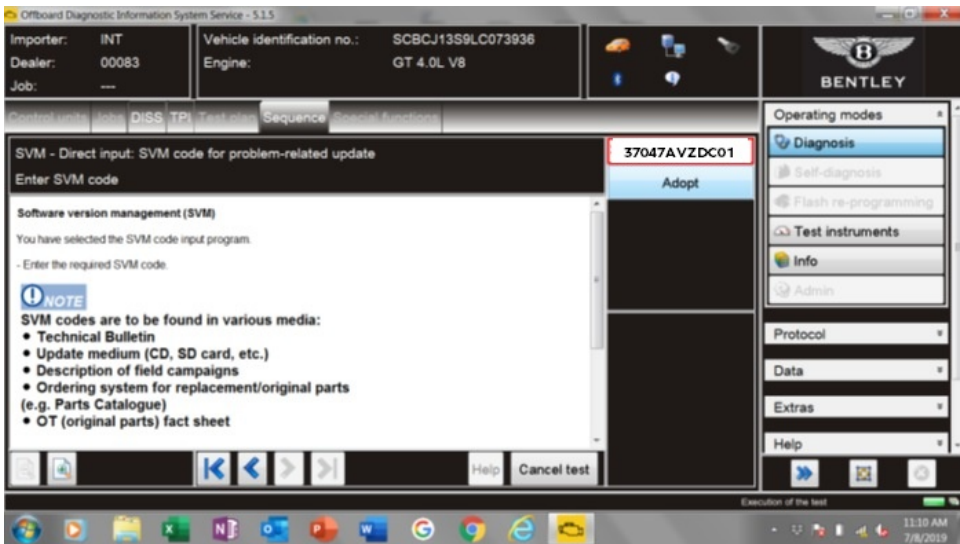

Figure 2
2. Enter SVM code 37047AVZDC01 and select Adopt (Figure 2).